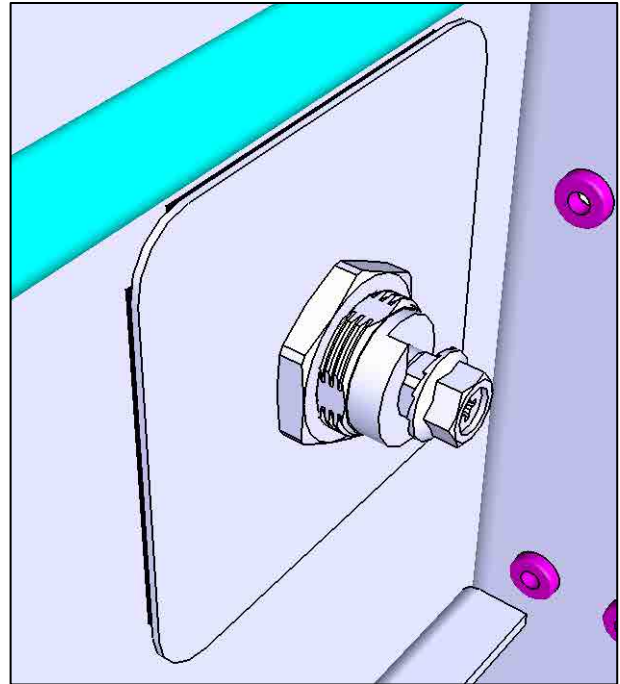

FIGURE 12
- 14.** Using the lock cylinder to align and retain the plate, place the plate on the inside face of the door. (fig. 12)